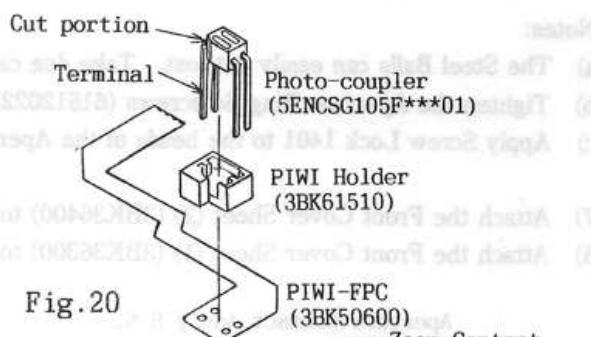

Fig.20
- 1) Install the Photo - coupler (5ENCSG105F***01) in the PIWI Holder (3BK61510) so that the cut portion of the Photo - coupler is positioned as shown in Fig.20.